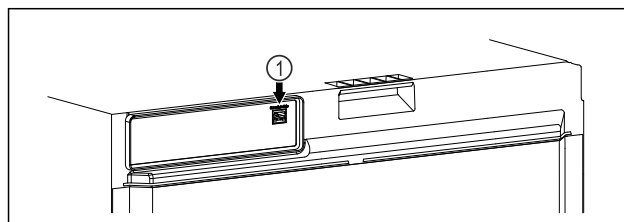

Fig. 109
- ❑ SmartModule Fig. 109 (1) is inserted.